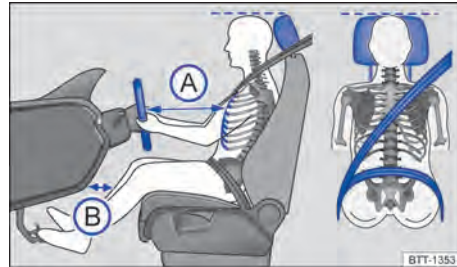

Fig. 20 Illustration: correct distance between the driver and the steering wheel, correct seat belt routing and correct head restraint adjustment.
- Adjust the head restraint so that its upper edge is at the same height as the top of the head, but not lower than eye level. Position the back of your head as close to the head restraint as possible → Fig. 20.
- Adjust the driver seat by moving it forwards or backwards so that you are able to press the pedals to the floor with your knees still slightly bent and so that the distance from the dash panel to the lower leg area is at least 10 cm (around 4 inches) → Fig. 20 Ⓑ.
- Adjust the seat so that the distance between the steering wheel and your breastbone is at least 25 cm (around 10 inches) → Fig. 20 Ⓐ and the circumference of the steering wheel can be held at the sides with both hands and your arms slightly bent.